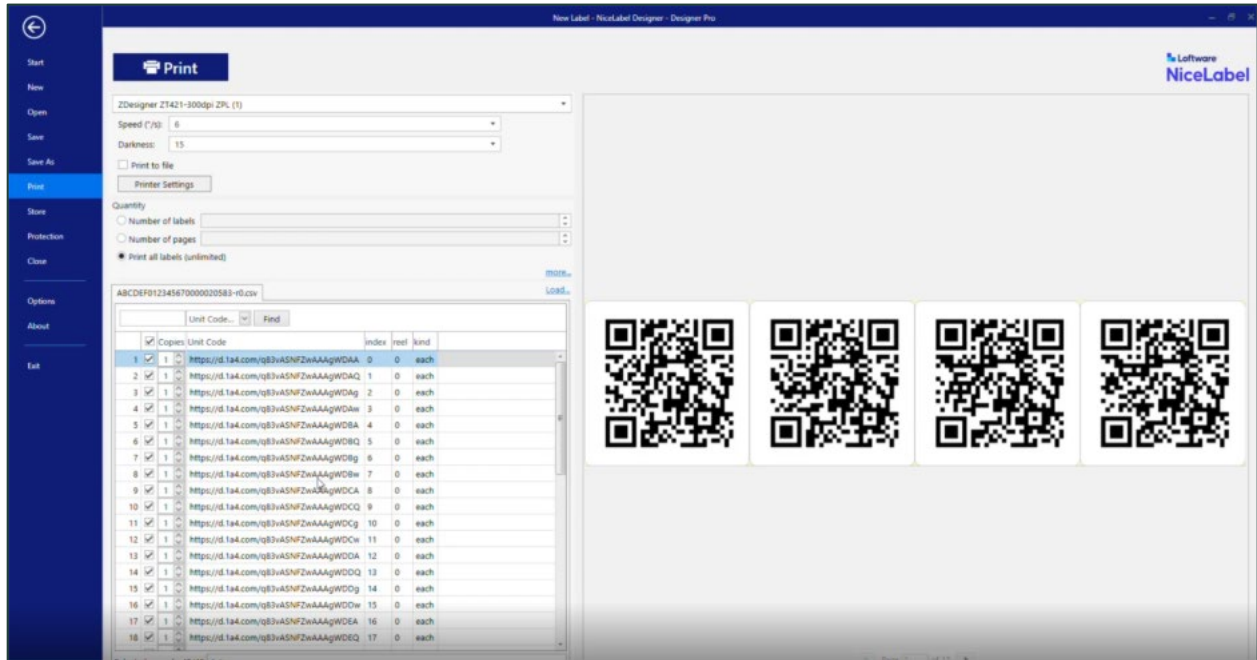

Figure 25: Print Preview window with Database
19. Make sure copies are set to 1 and all are selected, then Print. Print your labels with serialized Retail ID QR codes – **see figure 25.**